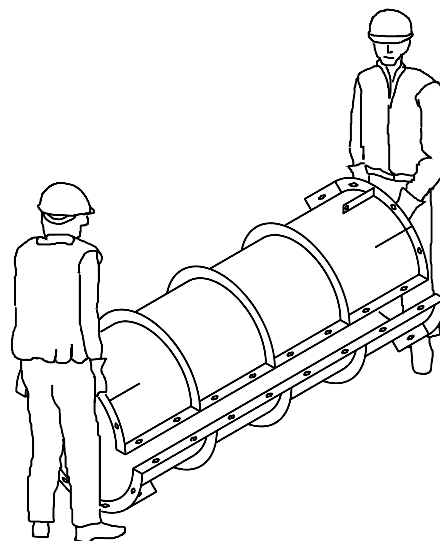

Figure 4
- ❖ Once release agent has been applied on the panels, position one panel on top of the other (See figure 4). Due to the weight of the panels, it is sometimes necessary to use a crane.